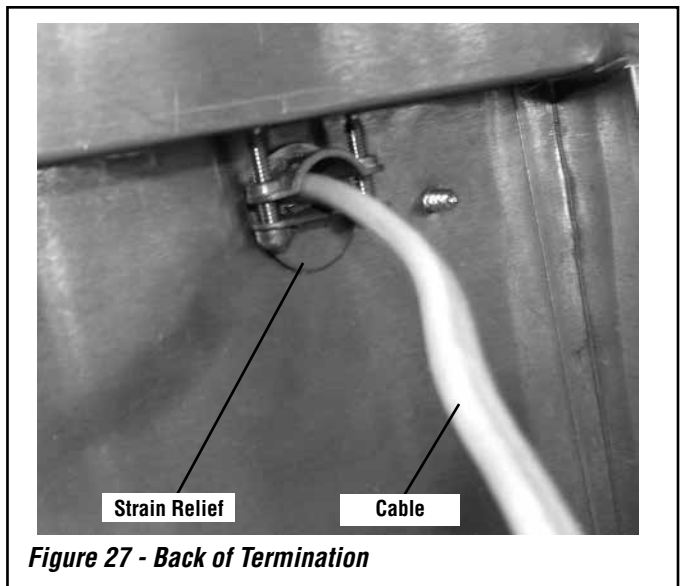

Figure 27 - Back of Termination
CAUTION: Ground supply lead must be connected to the wire attached to the green ground screw located on the outlet box. See Figures 27 and 28 on Page 22. Failure to do so will result in a potential safety hazard. The appliance must be electrically grounded in accordance with local codes or, in the absence of local codes, the (USA) National Electrical Code, ANSI/NFPA 70 - latest edition, or the Canadian Electrical Code, CSA C22.1 - latest edition.
- Refer to **Figure 27 on Page 22** and install the electrical hardware on the ends of the cable. Male terminals on the Black and White wires, and ring terminals on the ground wire.
- Loosen the strain relief on the termination shown in **Figure 27**. Pull the pigtail in and shorten it to fit within the junction box cover.